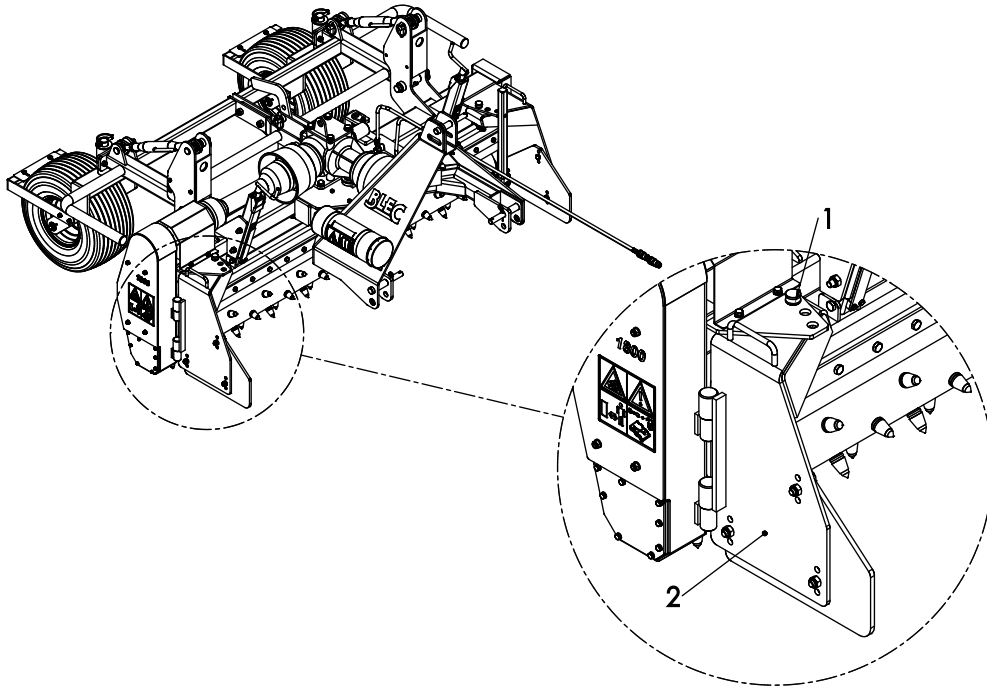

Figure 11
3. Both side plates **(2)** must be placed in such a manner that they point straight forward. This can be done by placing the locking pins **(1)** in the rear hole (Figure 11).